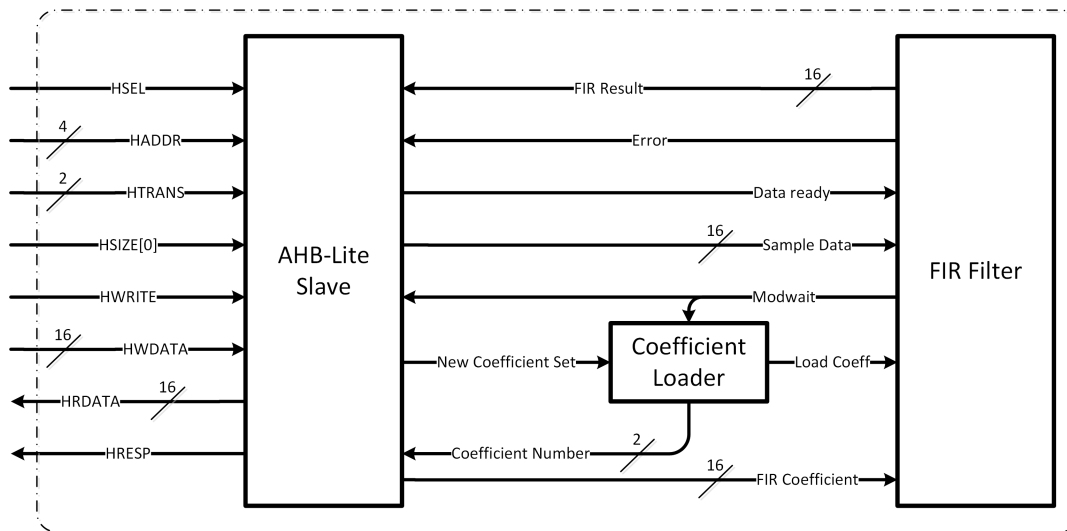

Figure 4: AHB-Lite FIR Filter Accelerator Architecture Diagram
- Prepare a state transition diagram for the coefficient loader (see figure 4). You may also need a state machine to control sending of sample data, but it will be a simplified version of the coefficient loader.
The architecture for the AHB-Lite FIR Filter Accelerator design you will be completing during this lab is shown in Figure 4.